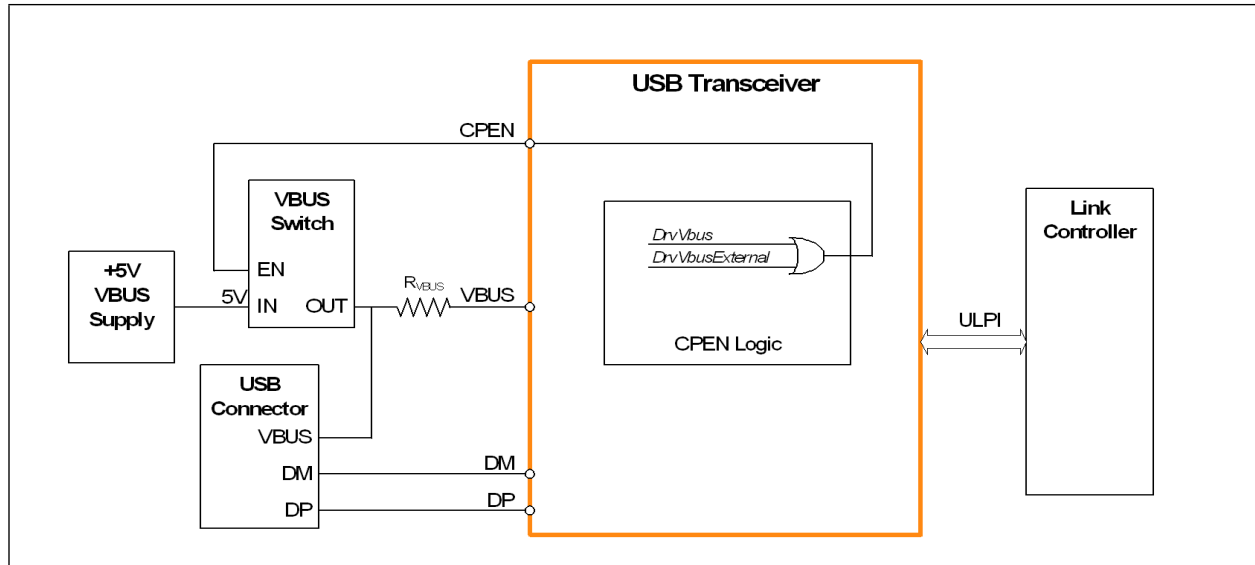

Figure 5.8 USB3340 Drives Control Signal (CPEN) to External Vbus Switch
**CPEN** is asserted by setting the *DrvVbus* or *DrvVbusExternal* bit of the OTG Control register. To be compatible with Link designs that support both internal and external Vbus supplies the *DrvVbus* and *DrvVbusExternal* bits in the OTG Control Register are or'd together. This enables the Link to set either bit to access the external Vbus enable (**CPEN**). This logic is shown in Figure 5.8. *DrvVbus* and *DrvVbusExternal* are set to 0 on Power On Reset \(POR\) as shown in Section 7.1.1.7.